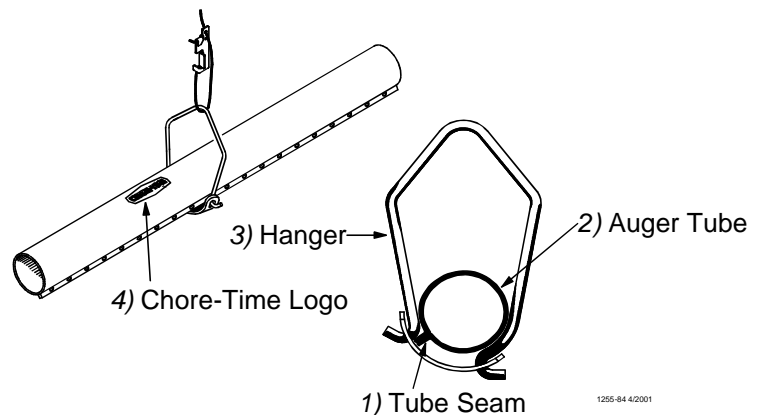

Figure 22. Hanger Installation
3. To achieve total feed drop out all along the system, the Chore-Time Logo should be centered at the crown of the tubes and all the Hangers should be installed as shown in **Figure 22**.
5. Install the Hangers on the feed line tube at the 8' [2.4 m] spacings determined by the suspension drop lines. **Figures 22 and 25** show the proper installation of the Hanger Assembly. Make sure the outlet drop hole is downward when the Hangers are installed, otherwise feed will not be allowed to drop into the feeder pan.